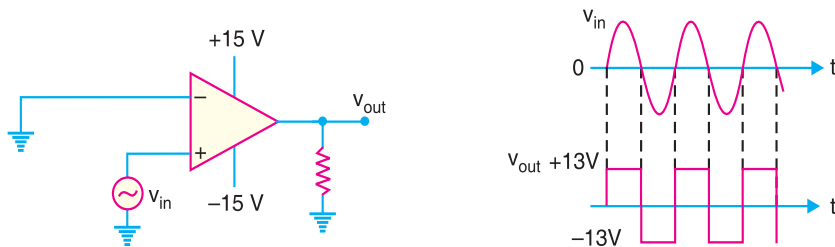

Fig. 25.95
2. As a zero-crossing detector. When one input of a comparator is connected to ground, it is known as zero-crossing detector because the output changes when the input crosses 0 V . The zero-crossing circuit is shown in Fig. 25.95. The input and output waveforms are also shown. When the input signal is positive-going, the output is driven to positive maximum value (i.e. $+V_{sat} = +13\text{ V}$). When the input crosses the zero axis and begins to go negative, the output is driven to negative maximum value (i.e. $-V_{sat} = -13\text{ V}$).